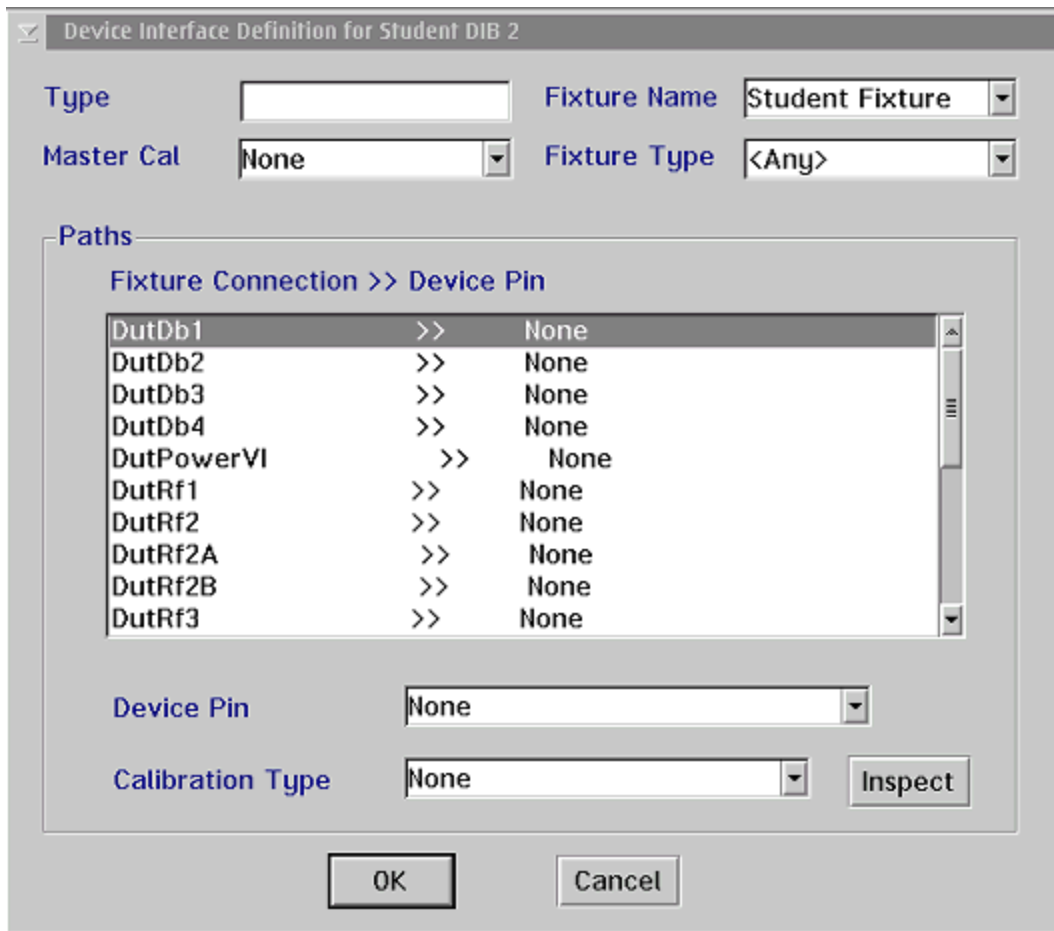

Figure 5
2. A **Device Interface Definition** window as found in Figure 5 will appear. It would also be helpful to have the **Pins** editing window open for the DUT intended for the DIB (Fig. 6). This is done by: